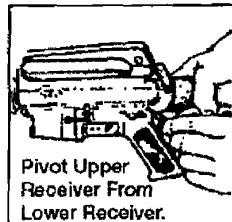

Figure 071-311-2025-6. Pushing the takedown pin
e. Push the receiver pivot pin (figure 071-311-2025-7).